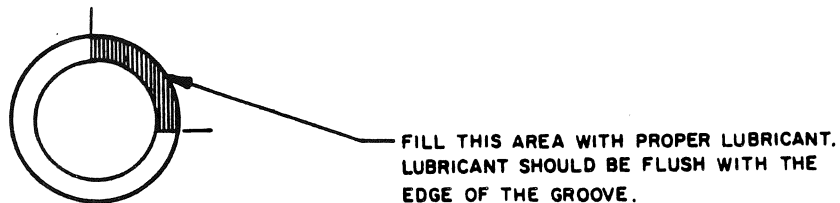

Figure 6.4. Lube Application to O-Ring Grooves
1. Pack one-quarter the distance around the groove with the required lubricant prior to installing the O-ring (see Figure 6.4).